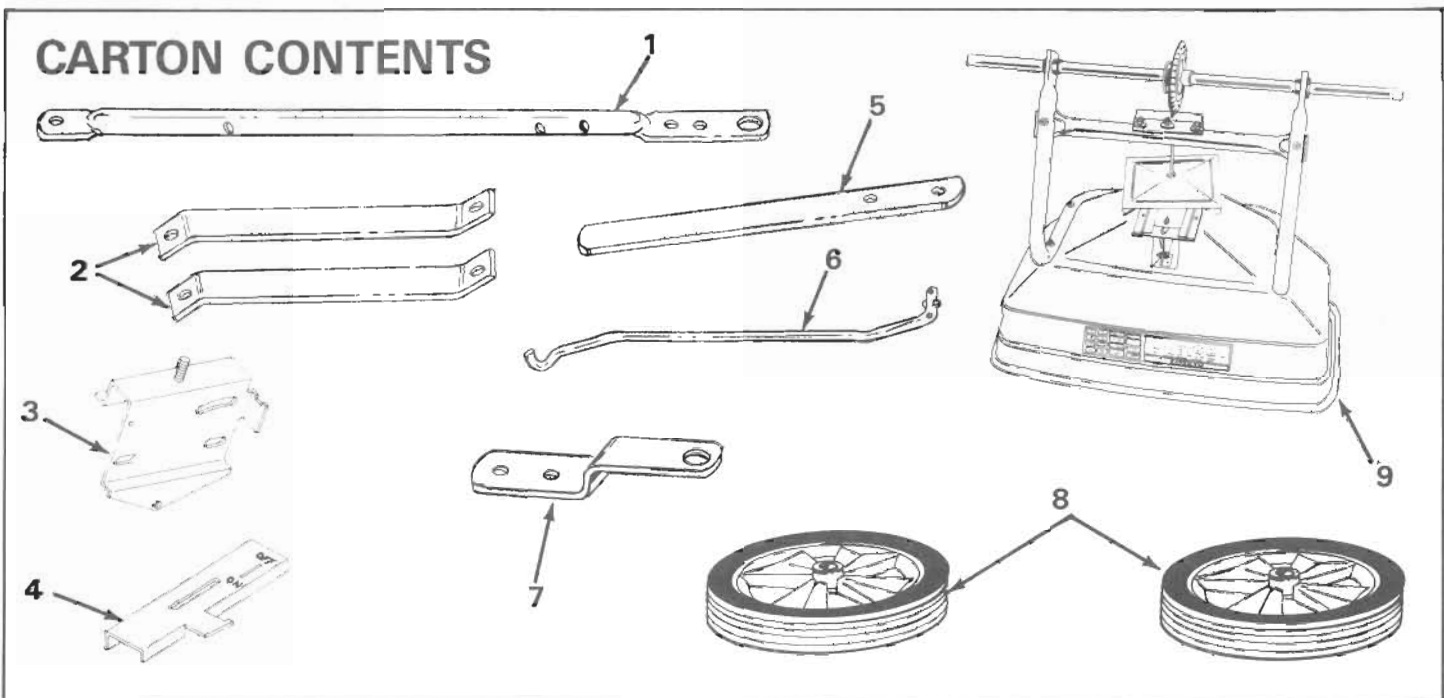

FIGURE 1
Your broadcast spreader carton contains parts as shown in figure 1. The hardware package contains parts shown in figure 2 on page 3. Identify all parts and layout as shown in figures 1 and 2.
- 1. Remove the spreader, loose parts and hardware package from the carton. See figures 1 and 2.